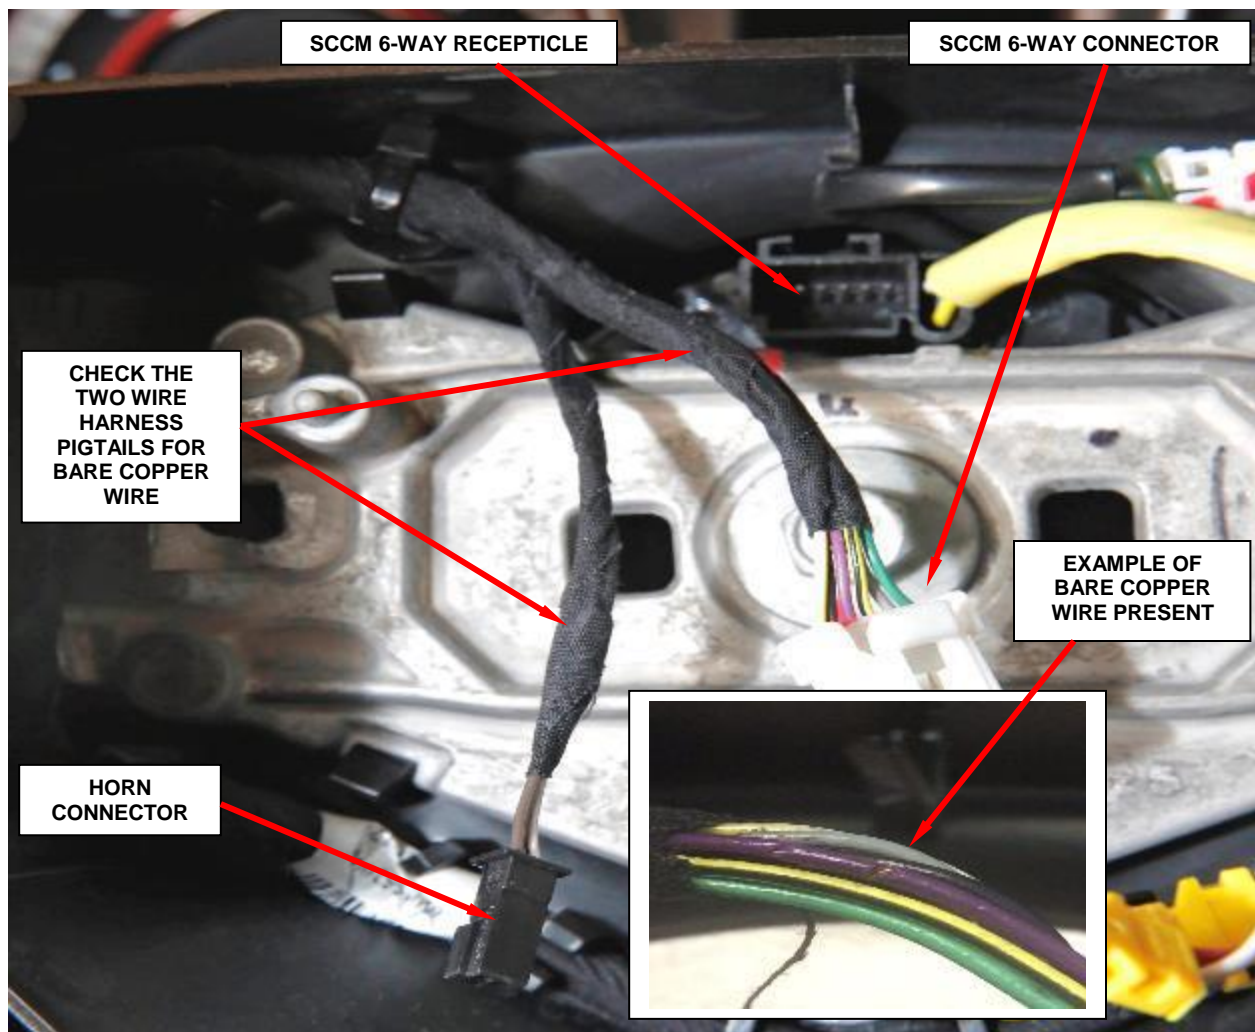

Figure 4 – Inspect for Wire Harness Damage
9. Disconnect the SCCM 6-way electrical connector (Figure 4).
11. Inspect the steering wheel wire harness at the SCCM 6-way electrical connector and the horn connector pigtails for damage (Figures 4 and 5).